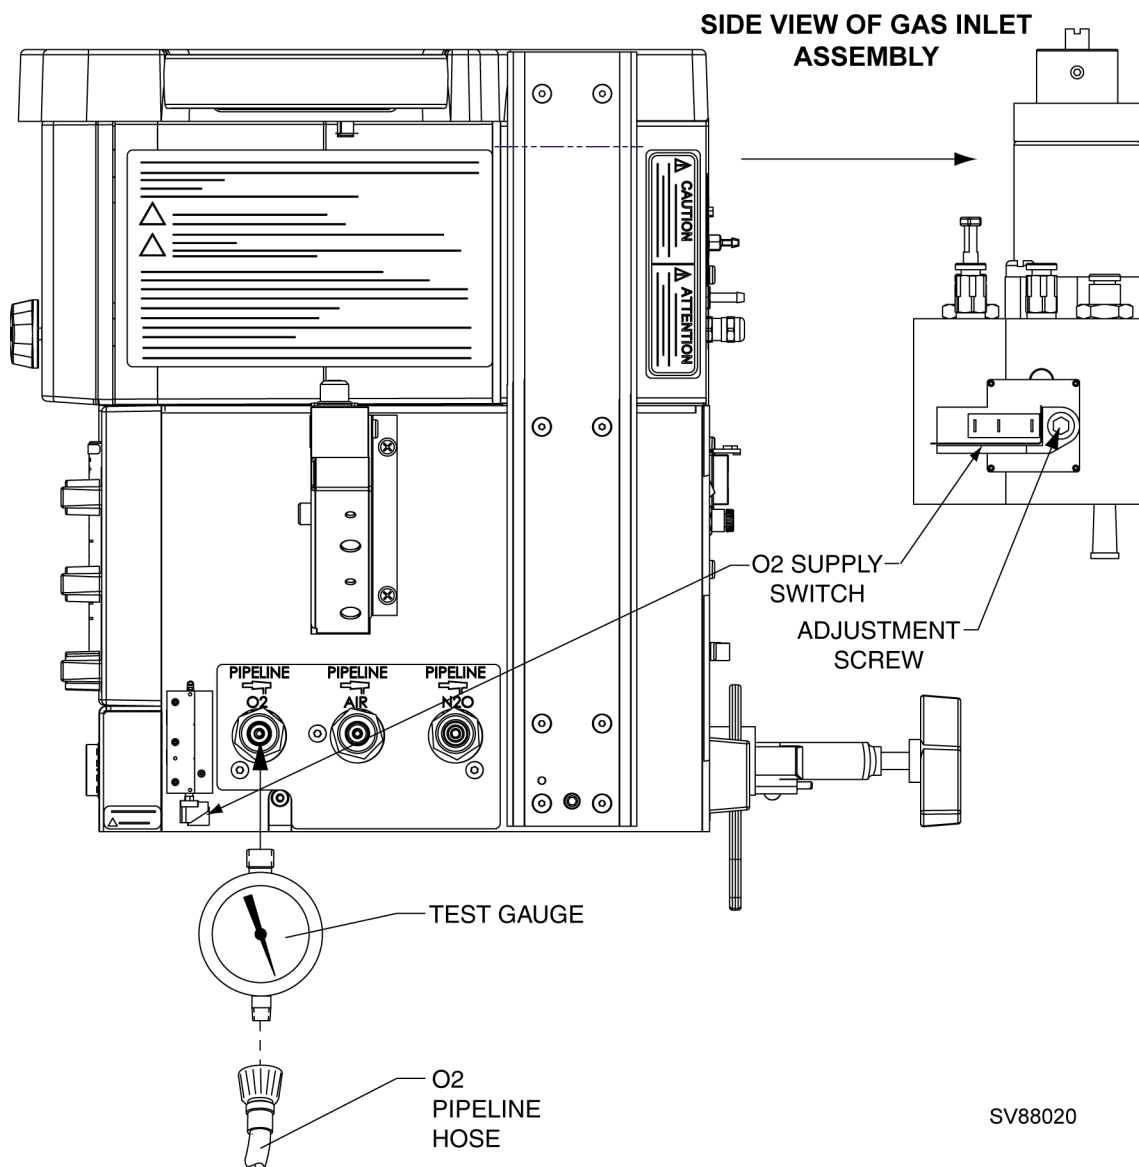

Figure 3 Oxygen Supply Pressure Alarm Switch Adjustment
9. If the alarm activates when the pressure is below 16 psi or above 24 psi, turn the adjustment set screw (see Figure 3). Repeat the test and adjust as necessary to bring the set point into the correct range.